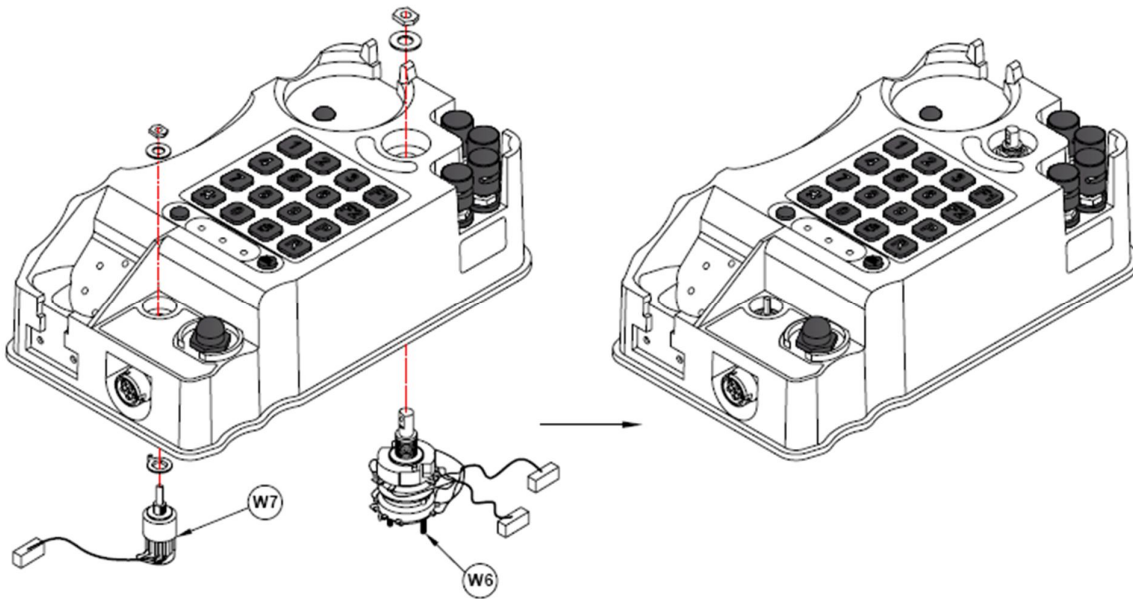

Figure 7 : Re-assembly of System and Volume switch assembly
- From the top panel cover of the telephone, unscrew the nut as shown in Figure 7.